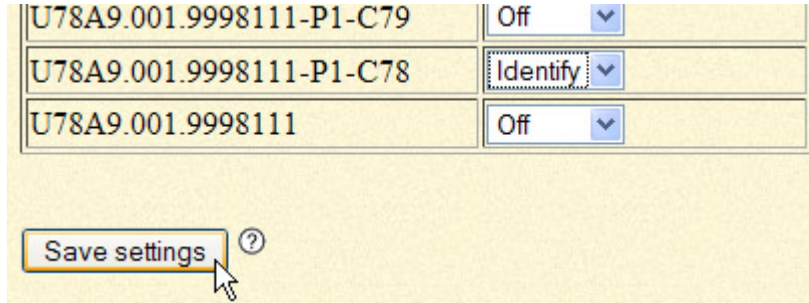

Figure 36 DIMM Location Identifiers save settings
STEP 49 After all DIMM Locations to be serviced have been set to Identify, scroll to the bottom of the panel and click the Save Settings button. See Figure 36.